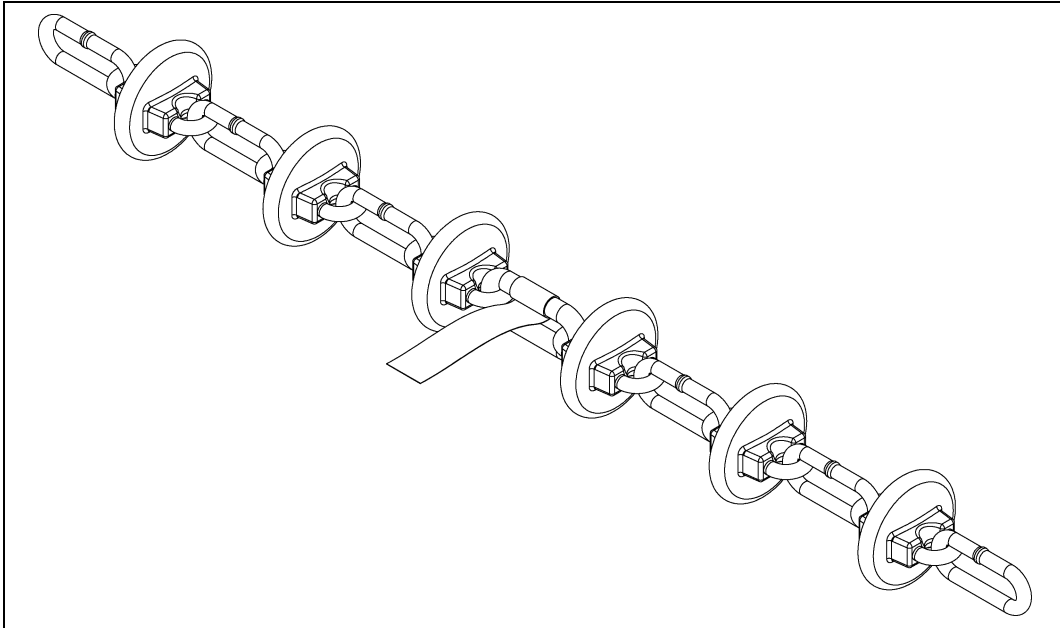

Figure 13G Coupling - Tape Correct
6. Connect one end of a new section of chain and disks to the fish tape. (See Figure 13G.)